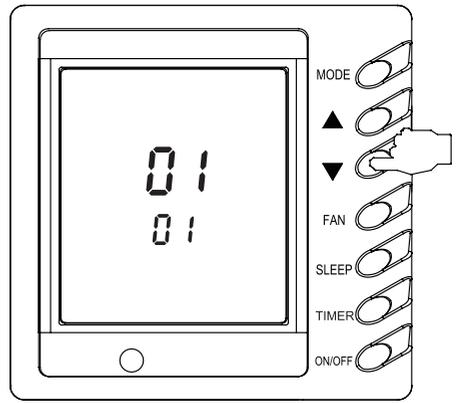

Fig. 21
- (1) Indoor ambient temp is air inlet temp and the setting temp area displays 01, as shown in Fig.21.